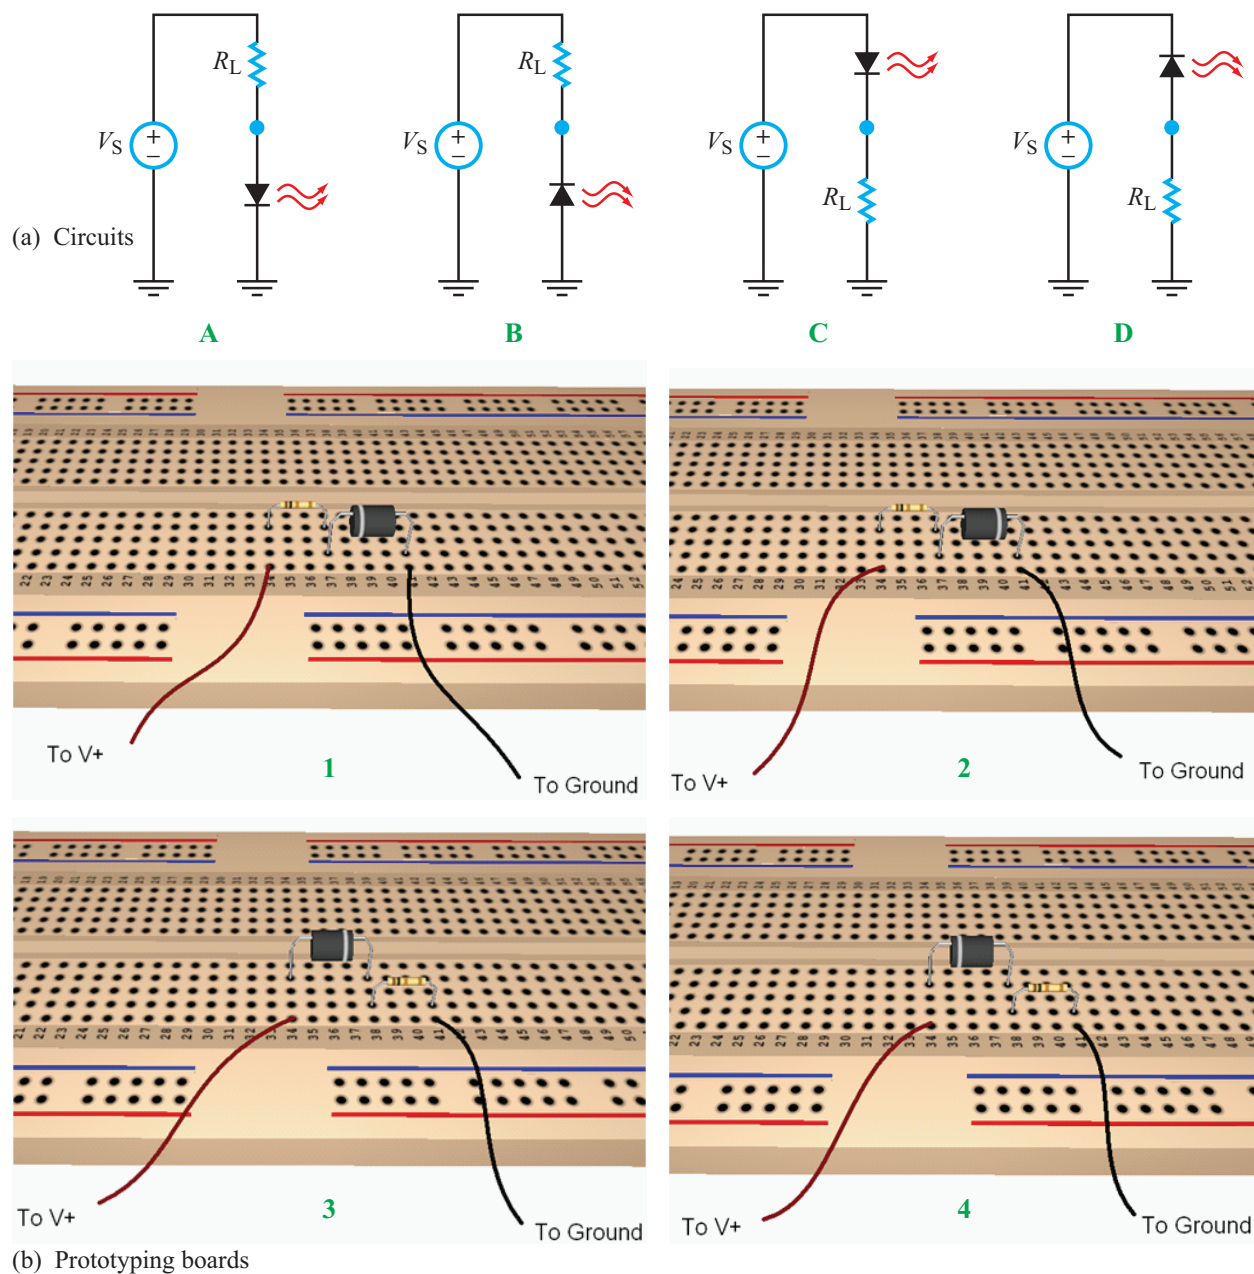

Figure 15: Four different circuit diagrams and four different protoboard arrangements.
1. Identify which circuit diagram in Figure 15(a) corresponds to each 3-D picture of the prototyping boards in Figure 15 (b).